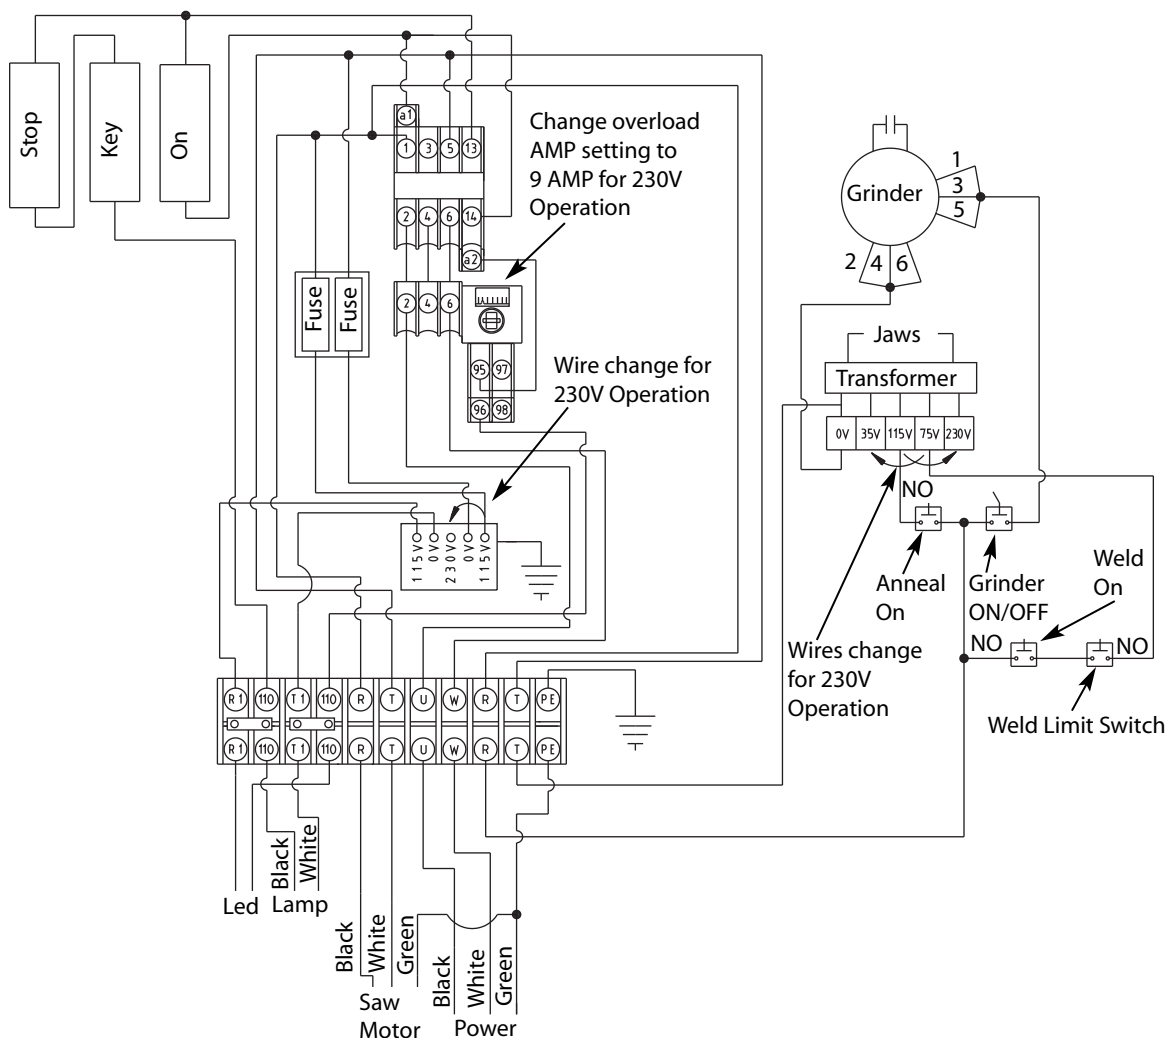

Figure 2 – Control Wiring Schematic
Refer to Figures 2 – 5, 15 and 18.
3. Change wire from 115 V terminal of transformer to the unused 230V terminal (See Figure 2).
4. Change amperage setting on the thermal overload relay (See Figure 2).